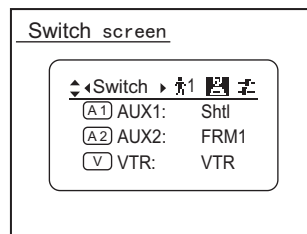

Fig1-4
2. Switch screen [Icon] (See Fig. 1-4 below)